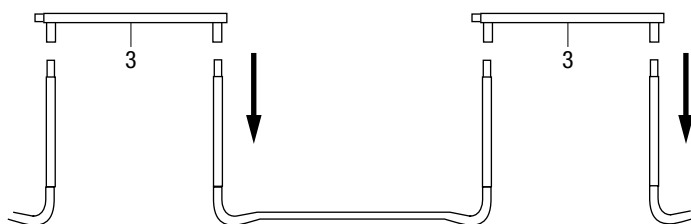

Fig. 3.1
- For this step you will need a second person to assist. One person must hold the support setups assembled in Step 2 vertically and the second person should connect the support setups with the foot supports (3), so that one foot support connects two sets of support setups together. You will then have two support setups, each consisting of an upper pipe with leg supports. (Fig. 3.1)